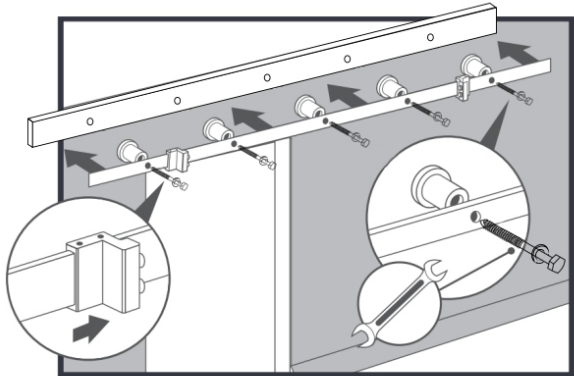

FIGURE 15
- Gather the lag bolts, washers, spacers and install the track using 13mm wrench following the instructions in FIGURE 15.